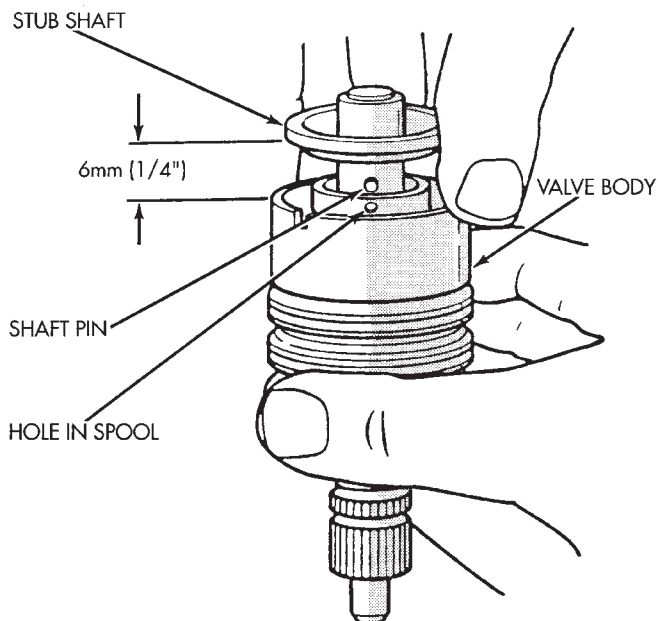

Fig. 14 Stub Shaft
(5) Remove stub shaft from valve assembly by lightly tapping on a block of wood to loosen shaft. Then disengage stub shaft pin from hole in spool valve and separate the valve assembly from stub shaft (Fig. 14).